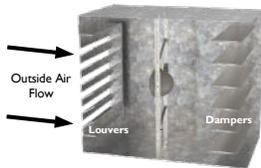

Figure 2
**1a. Install the IAQ-TEK Airflow Probe(s)** centered, in front of the damper, but behind the louvers. Ensure that the side of the probe with the dimples is pointing towards the oncoming air. See Figures 2 and 3, below.